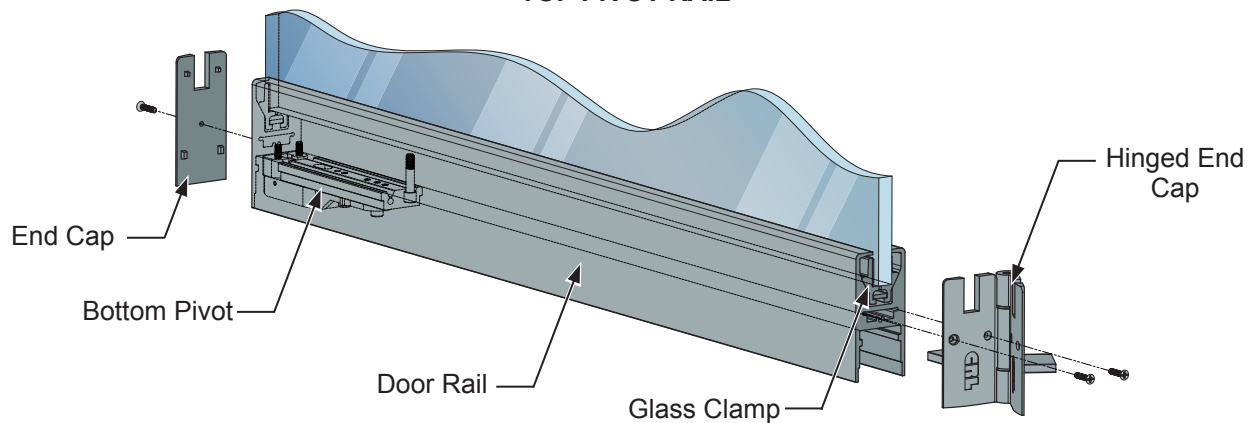

FIG. 9
1. Remove both end caps from the rail. (Fig. 9)